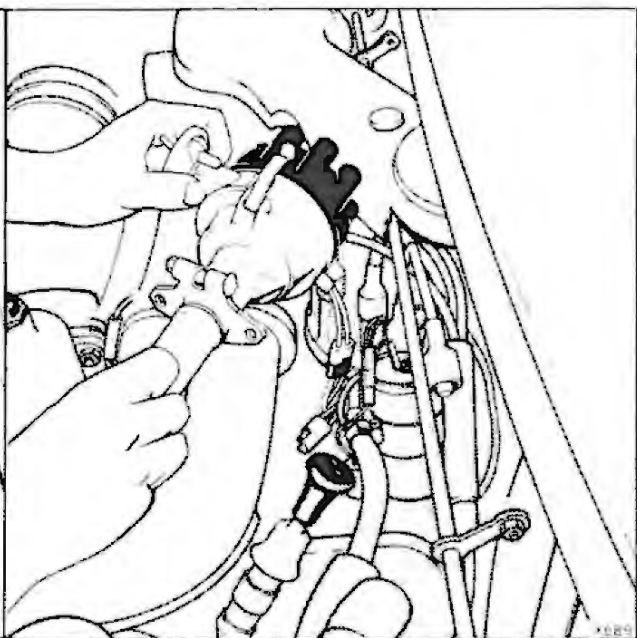

Fig. 5
- 6d. Switch on the ignition supply and manually spin the main shaft of the slave distributor. Observe if a spark is produced between the end of the high tension lead and earth (see fig. 5).